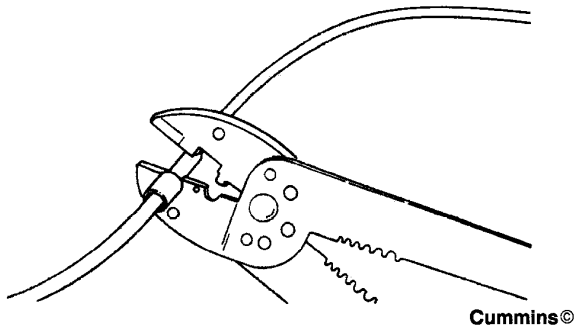

Figure 72 Crimp Terminal Repair Wire on Bare Wire
7. Crimp the terminal repair wire on the bare wire (Figure 72).